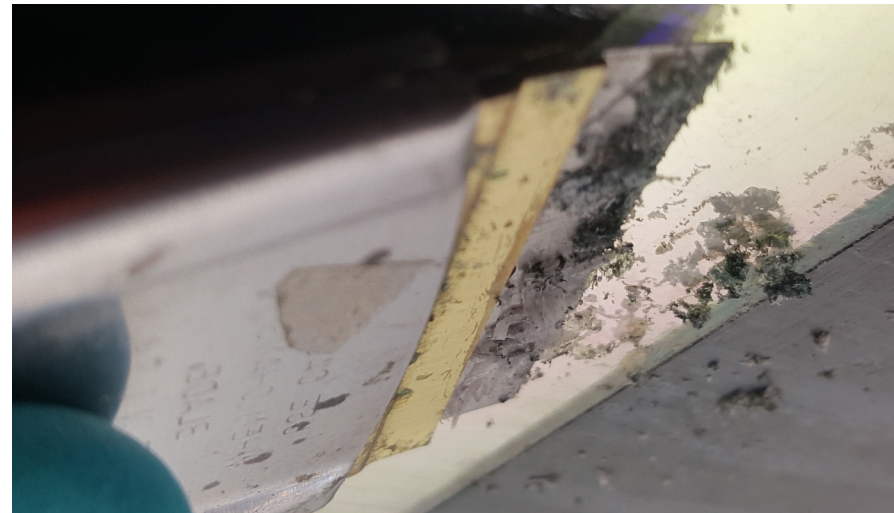

Figure 2-23: Scraping LED lamp glass
- F. Hold razor at a 20-30 degree angle to the lamp glass and carefully scrape large debris off the LED lamp glass using the sharp edge of the razor, Figure 2-23